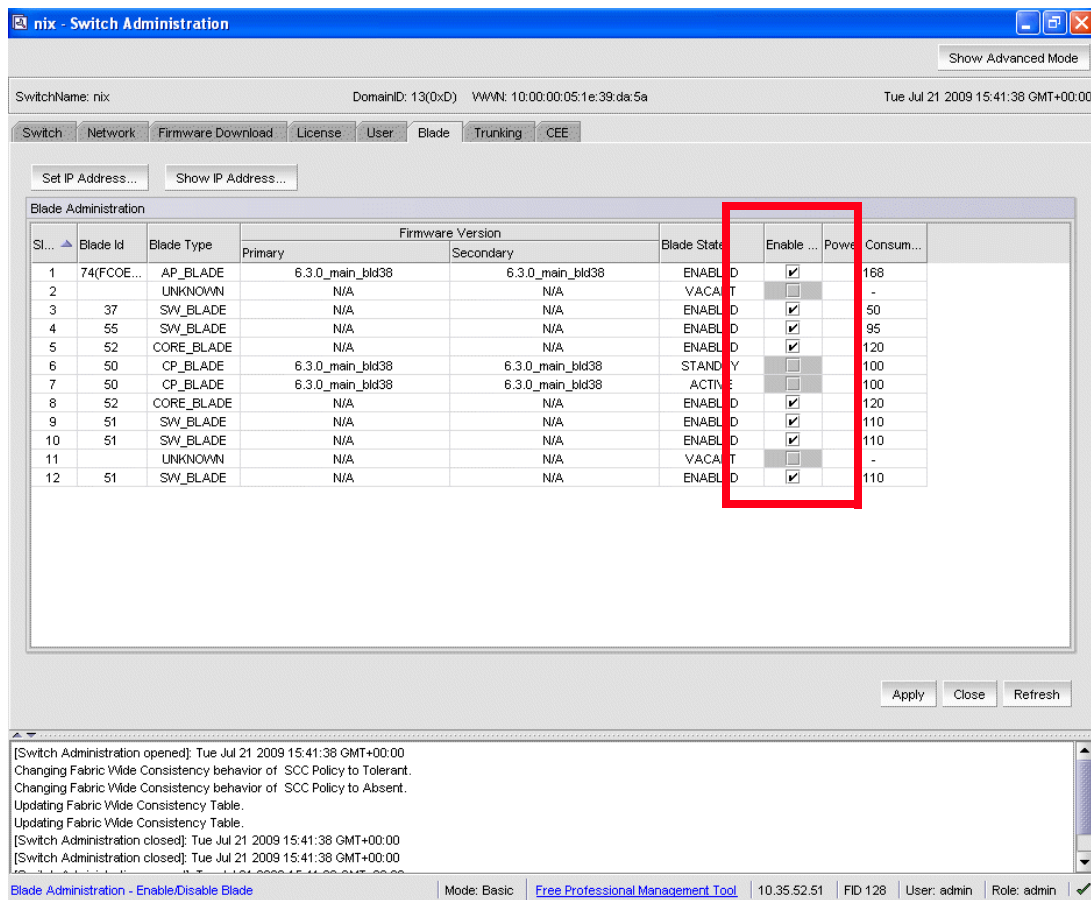

FIGURE 15 Blade tab
2. Select the **Blade** tab (Figure 15).